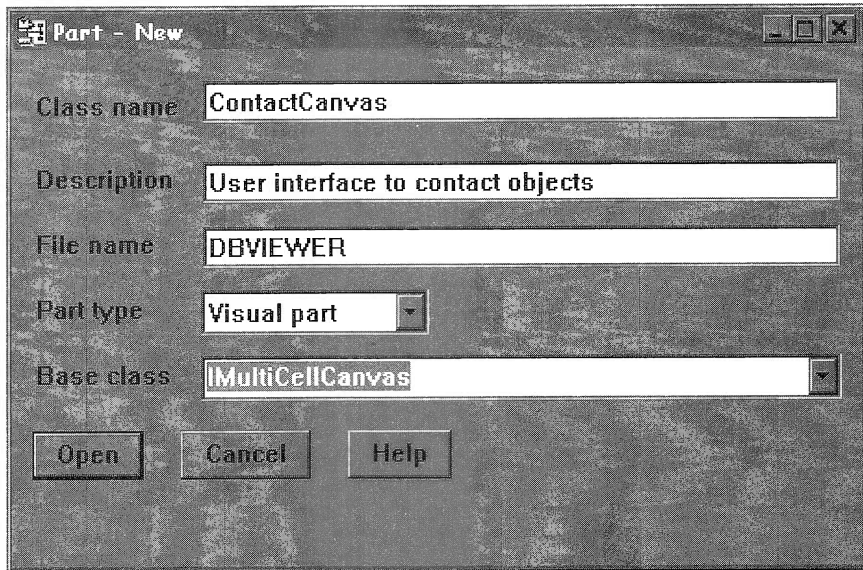

Figure 206: New ContactCanvas part
- ☐ From the **Parts Selector**, create a new visual part as shown in Figure 206.